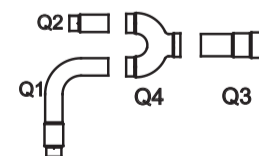
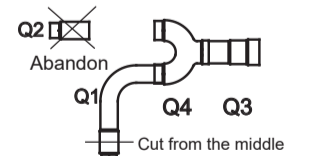

Fig.1
Fig.2
- When selecting model FQZHW-02N1E, the actual object as display in Fig.1, and then suppose that the outlet pipe of the machine is $\Phi 31.8$, main pipe is $\Phi 38.1$. As display in Fig.2, cut the standalone connecting pipe Q1 of the branch pipe component.
- As display in Fig.2, weld the standalone connecting pipe Q1, Q3 with the U-shape three direct links Q4; abandon the standalone connecting pipe Q2 because selected pipe size $\Phi 31.8$ can directly connect with the un-welded side of U-shape three direct links.